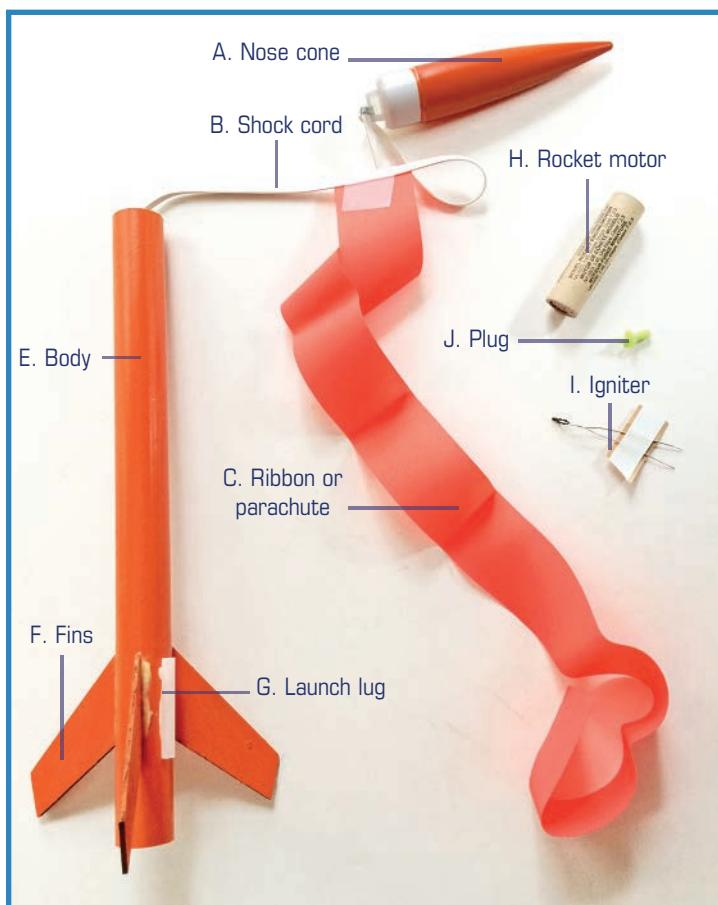

FIGURE 5.3 Though often rather small, a model rocket packs a lot of parts.
Let's go over the anatomy of a typical model rocket, following along with Figure 5.3:
- D. **Recovery wadding**—This fire-resistant wadding protects the parachute from the secondary charge (not shown in Figure 5.3).